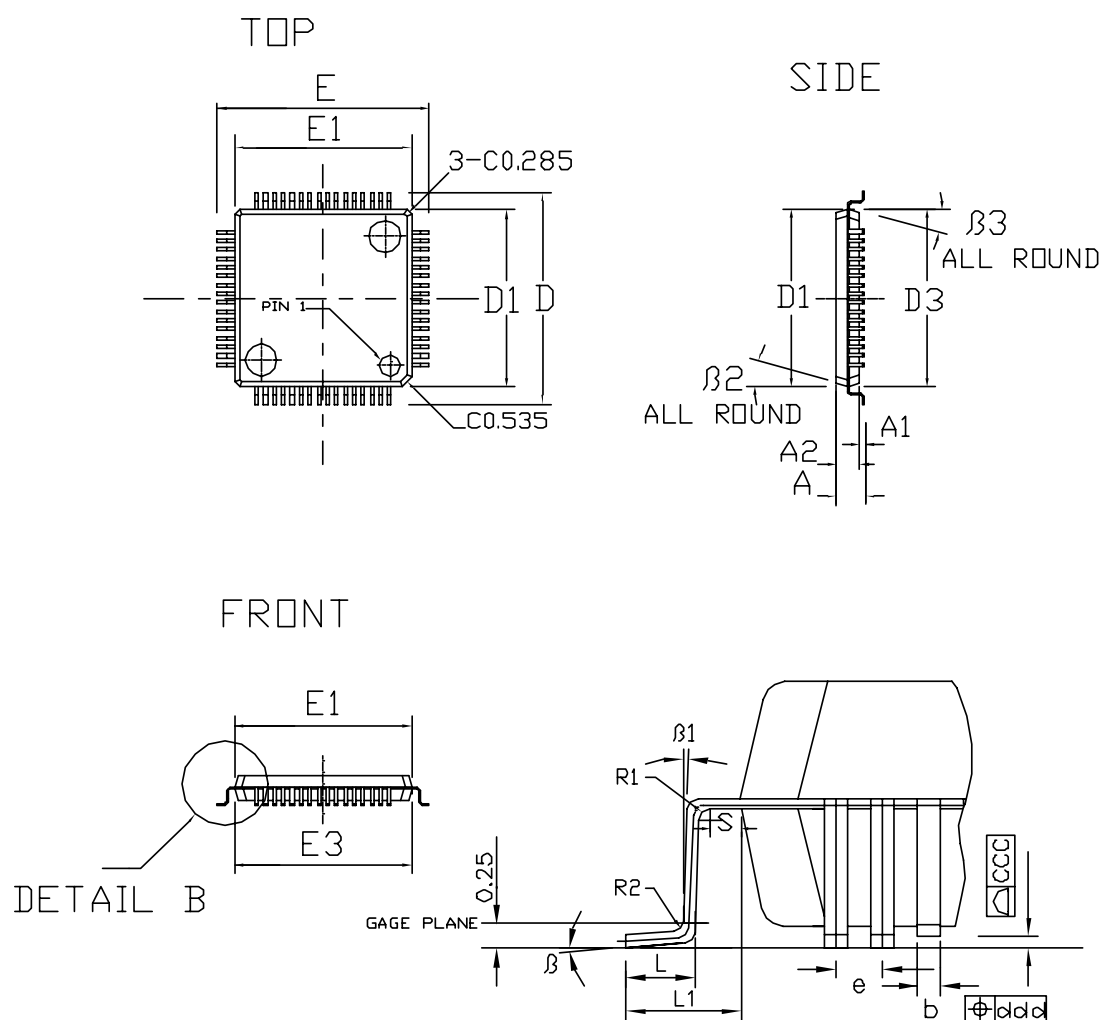

Figure 45. TQFP-64 package
**CC1010** is packaged in a TQFP-64 package. The package is shown in Figure 45 below and the dimensions are listed in Table 40. Please note that the drawing in Figure 45 is not to scale.